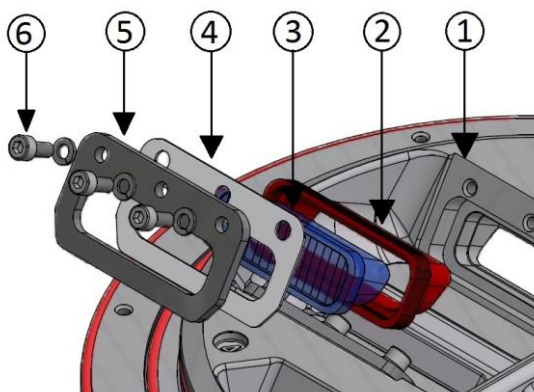

Figure 24 – Prism Gasket
- prism gasket mounted between prism and dome (Figure 24- n°2).